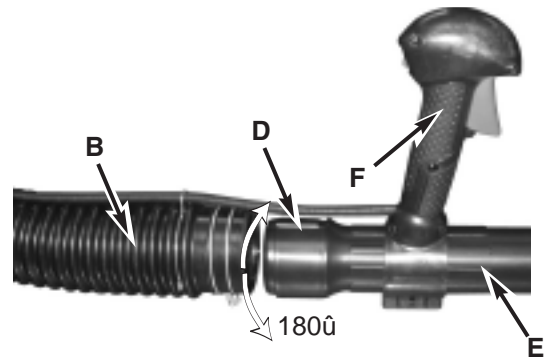
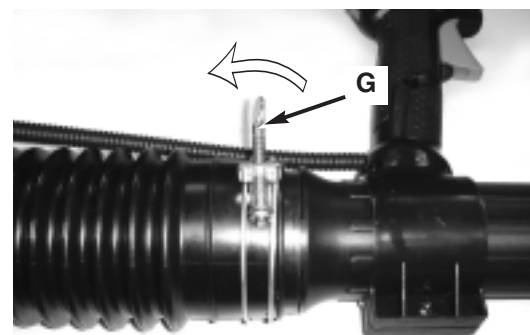

Fig. 3
Fig. 4
2. Put the hose clamp(C) on the flex tube and the operating tube together.
3. Turn the rotary ring mark(D) so it aligns with the throttle handle (F). Insert the operating tube (E) into the flex tube (B) (Fig. 3) and then tighten securely with a hose clamp (G)(Fig. 4).